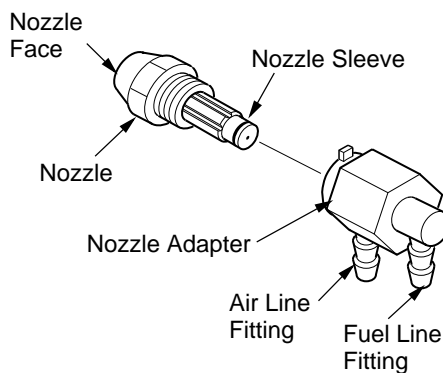

Figure 25 - Nozzle and Nozzle Adapter
6. Carefully remove nozzle from the nozzle adapter using 5/8" socket wrench (see Figure 25).
9. Replace nozzle into nozzle adapter until nozzle seats. Tighten 1/3 turn more using 5/8" socket wrench 4.5 to 5.1 N-m (40 to 45 in-lbs). See Figure 25.